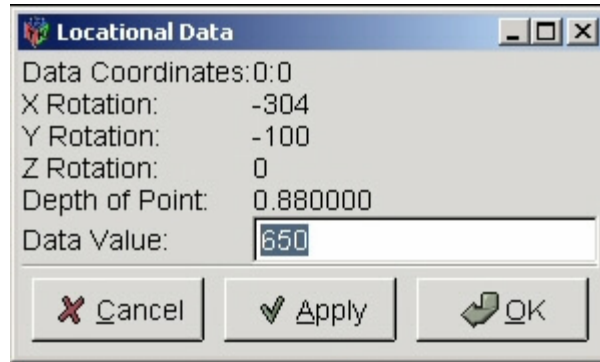

Figure 3.6
- **Show Data Under Crosshairs** – This function is done by moving the cross hairs over a desired point and then when selected it will show the following data as in Figure 3.6: